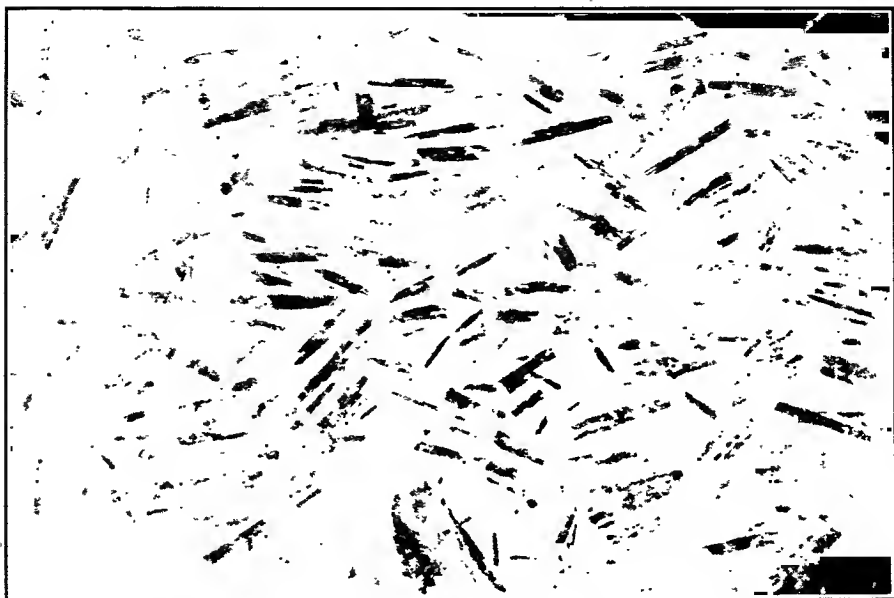

Figure 255. Labradorite-Porphyry, Marshfield, Massachusetts
**Porphyry.** If one or more of the component minerals of the rock crystallizes out, more or less perfectly, thus giving the rock an attractive spotted appearance, it is called a *porphyry*. Porphyries occur in granite, diorite and many other rocks besides the felsites and basalts. One of the most spectacular of the *basalt porphyries* is the so-called *labradorite porphyry* pictured in figure 255, in which the coarse, light-colored crystals are labradorite. Such crystals are called *phenocrysts*. *Felsite porphyries* are much commoner, especially in the variety *rhyolite*.